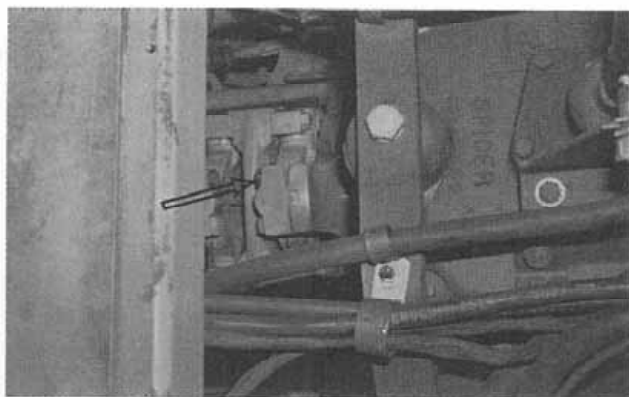

Figure 3:
5. At this time the upper driveline can be separated (Fig. 3). Loosen the four through-bolts which fasten the u-joints to a center coupling, then slide the transfer case yoke completely rearward (this yoke also functions as a slip joint). Withdraw the through bolts far enough so the center coupling can be taken out. If desired the through-bolts can be removed after turning the u-joint bearing caps.